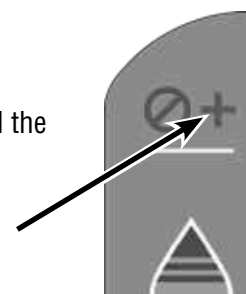

Figure 6
2. Dispense water from the STILL WATER lines by pressing & holding the "+" button (Figure 6), till the cloudy appearance dissipates and the water flows clear.